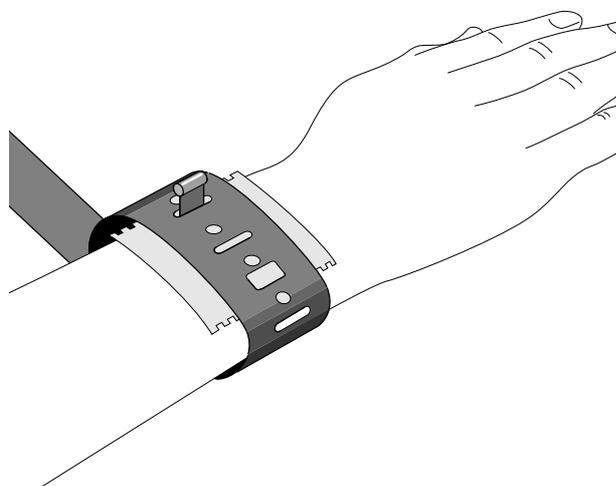

Figure 4-2. Applying the plate electrodes
- Secure the electrode with the rubber strap (Figure 4-2), but do not hinder blood circulation.